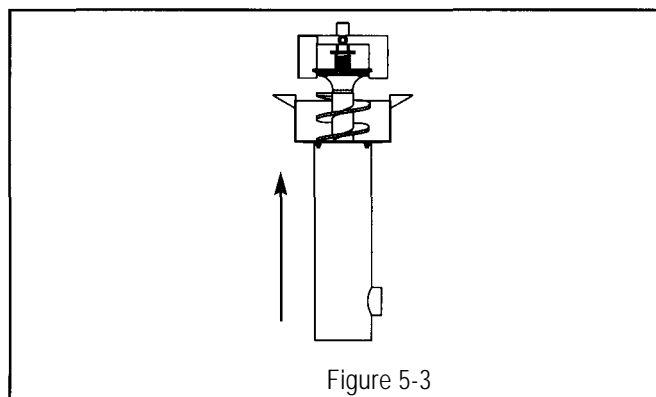

Figure 5-3
5. Remove auger from screen by lifting it up (see figure 5-3).